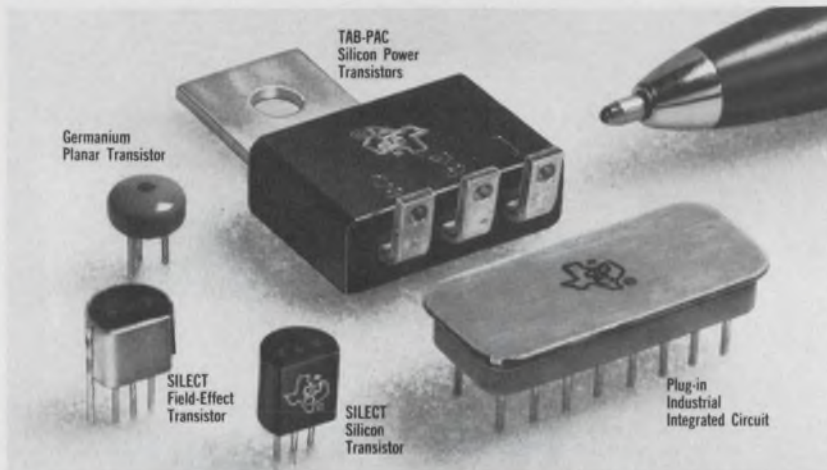

Figure 1. TI offers many economy semiconductors for industrial and commercial applications.
Thus, in the case of Fig. 1:
Now A' is still unknown, but it can be found from dc considerations. The choke in Fig. 1 cannot have a dc drop. Therefore the dc component of the waveform in Fig. 3 must be equal to the battery voltage, V_B . In other words:
For all these calculations we assumed that the output circuit is less than critically damped. This means, in the case of Fig. 1, that:
- In the practical circuit we have a low-pass filter section in the collector circuit and not as simple a circuit as the one assumed in Fig. 1 for the calculation.